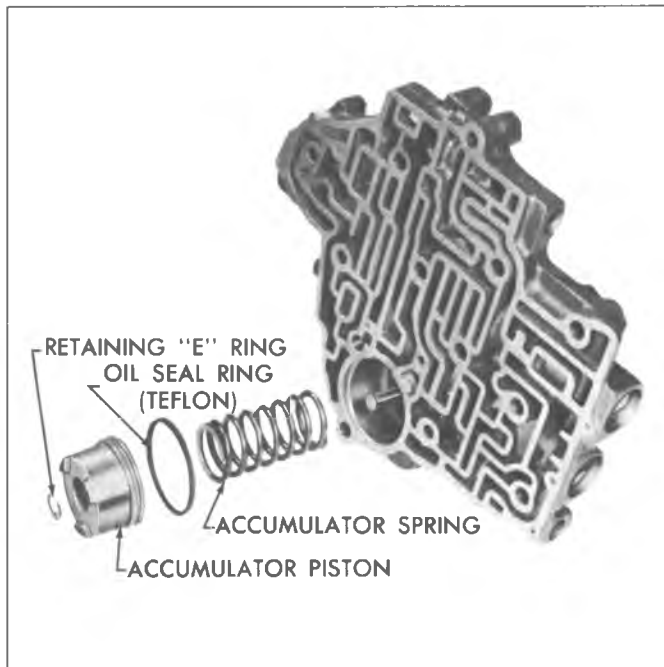

Fig. 8B—Front Accumulator Assembly - Exploded
4. Remove front accumulator piston and spring (fig. 8B).
NOTE: See figure 8B. Do not remove the teflon oil seal ring from the front accumulator piston unless the oil seal ring requires replacement. For service, the oil seal ring is cast iron.